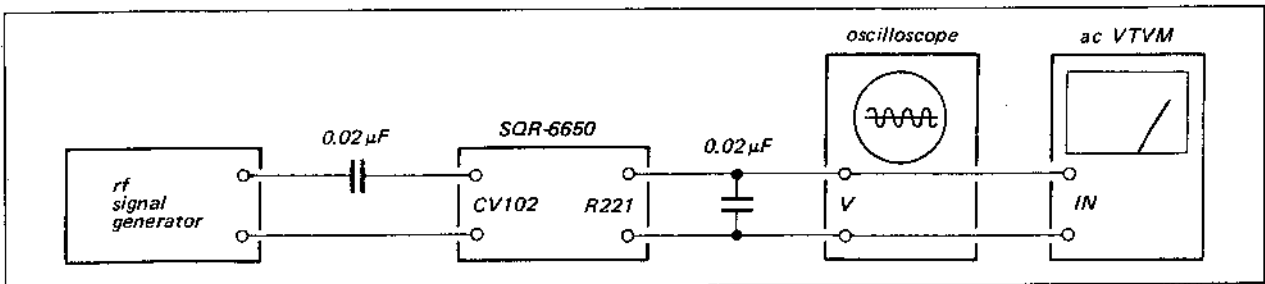

Fig. 3-7. Fm discriminator alignment test setup by rf signal generator
1. With the equipment connected as shown in Fig. 3-7, set the signal generator controls as follows: